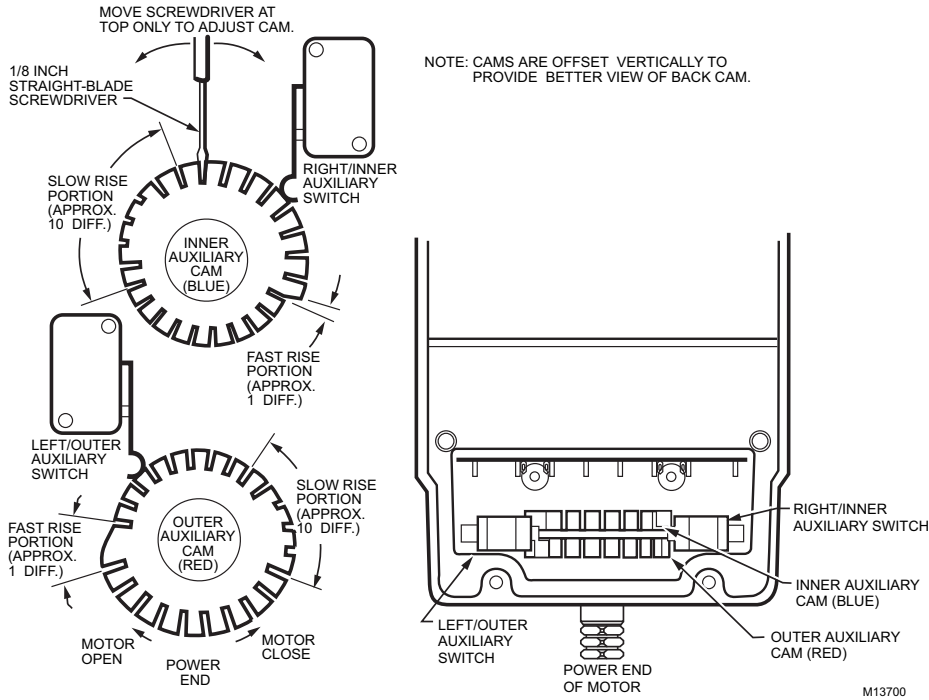

Fig. 14. Auxiliary switch adjustment.
1. *Insert 1/8 in. screwdriver blade into a slot on cam and move the screwdriver top as far as possible in the required direction. See Fig. 14.*